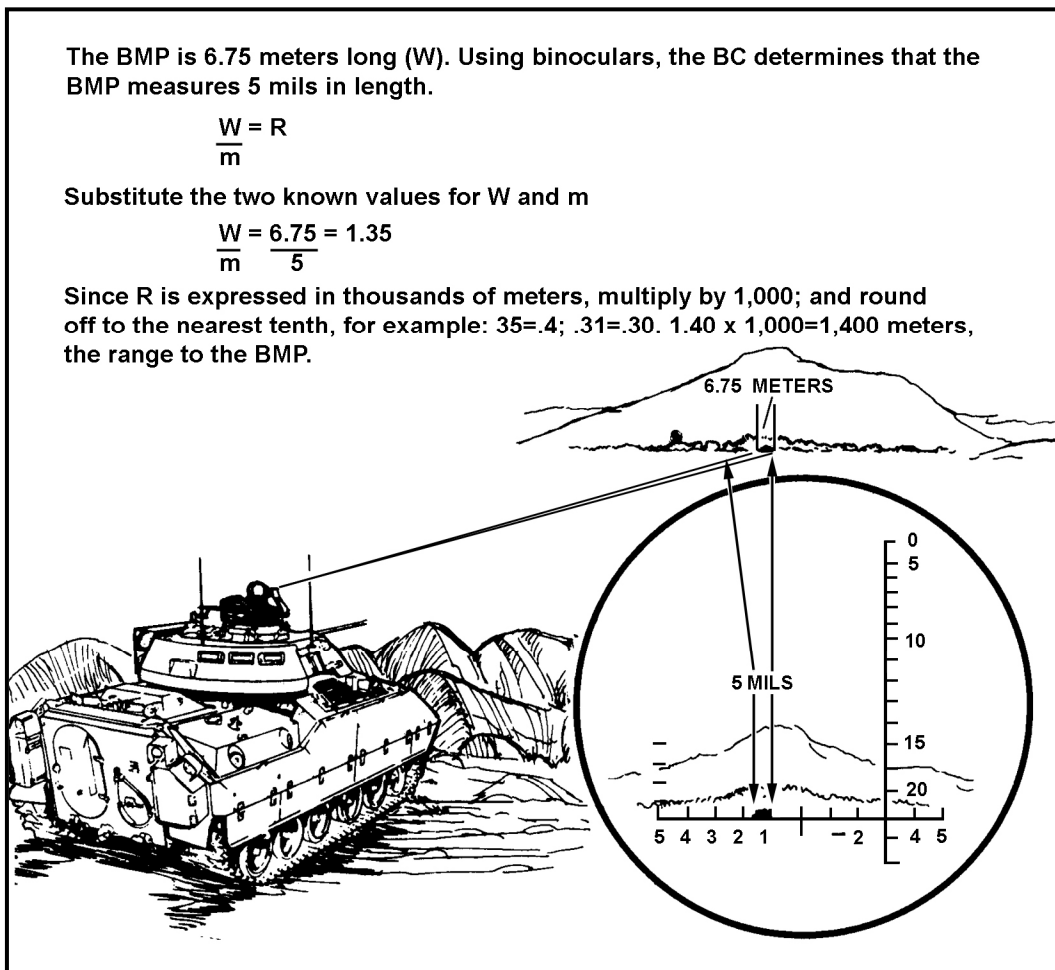

Figure 4-4. Range determination using binoculars.
(1) To determine if a target is within range at 3,000 meters based on the length of the target, place the length of the target on the vertical scale. If one-third or more of the vehicle extends beyond the tick mark, the vehicle is in range (Figure 4-4, page 4-10). A vehicle 6.5 meters long will measure about 2.2 mils at 3,000 meters and about 1.7 mils at 3,750 meters.